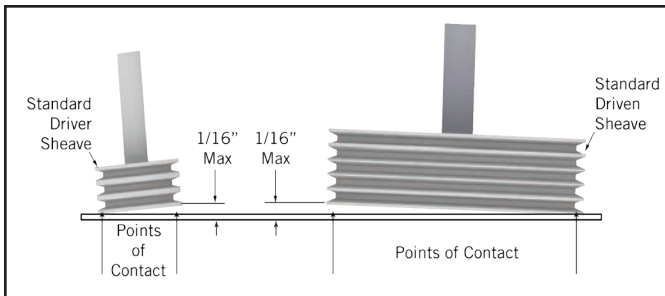

Figure 24. Drive Alignment
- Place a straight edge across the driver and the driven sheaves as shown in Figure 24.
- The straight edge should contact all four points as shown in Figure 24 indicating that the drives are properly aligned.